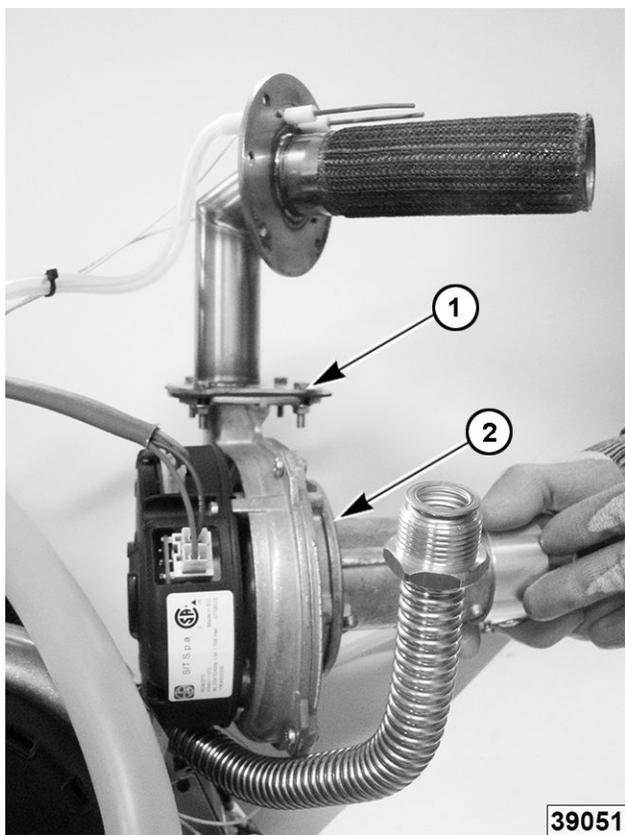

Fig. 106
5. Remove blower mounting screws (1, Fig. 106) from burner and venturi (2, Fig. 106).